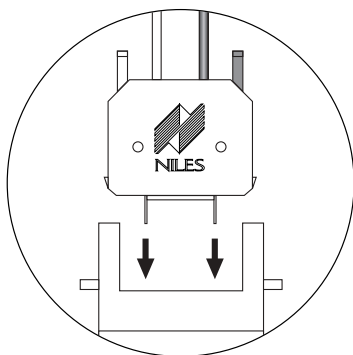

Figure 15
4. Insert the no strip terminal into the corresponding socket on the rear of the speaker. Push it down until it locks in place. The terminal will only fit in the socket in one direction. If the terminal does not properly seat, reverse the terminal 180° and reinsert (See Figure 15).